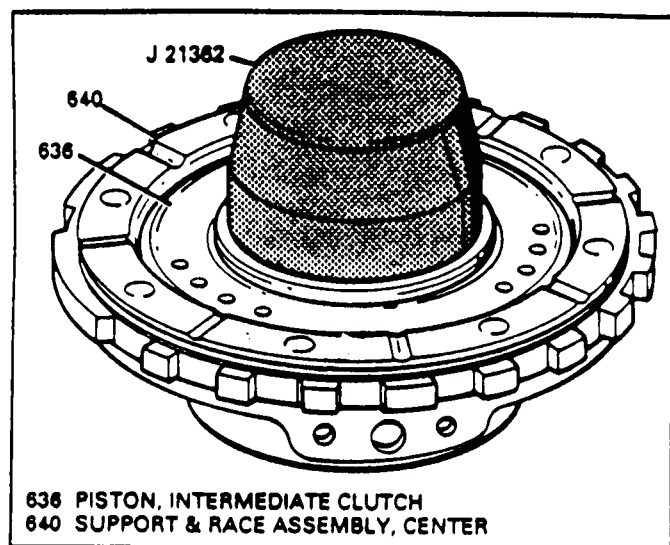

Figure 66
19. Install tool J-21363 lip seal protector onto center support (See Figure 66).